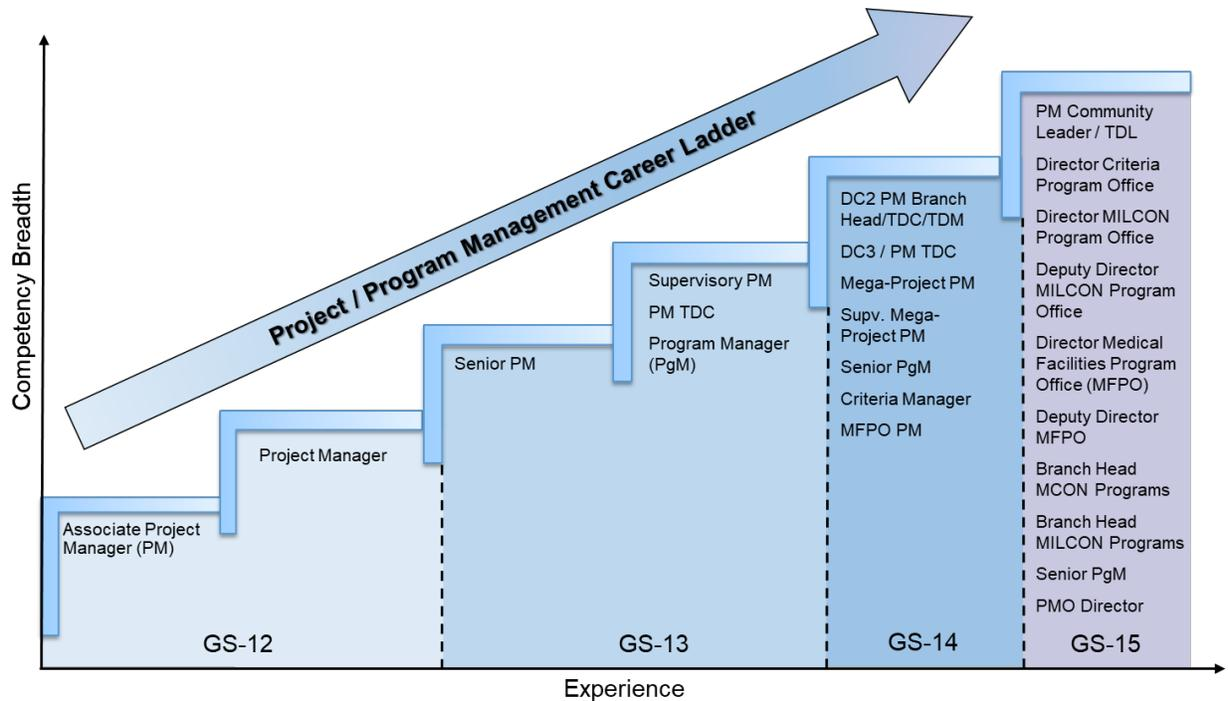

Figure 1. Project / Program Management Career Ladder
For the Design and Construction Business Line, PM technical expertise in facility and/or construction engineering is foundational and therefore all PMs should have significant experience in these areas. This experience is demonstrated through professional registration as a Professional Engineer (PE) or Registered Architect (RA). It is possible to be an Associate Project Manager without professional registration; however, it is required in order to progress in the Project Management career field. As shown in Figure 1, as a Project Manager grows in experience, mentoring and supervisory opportunities as well as opportunities to manage larger, more complex projects may be added. As the PM's competency breadth increases, these experiences can lead to opportunities in PM Leadership and Program Management. The PM skillset and competency is highly valued within NAVFAC and easily translates into opportunities across the various NAVFAC Communities.